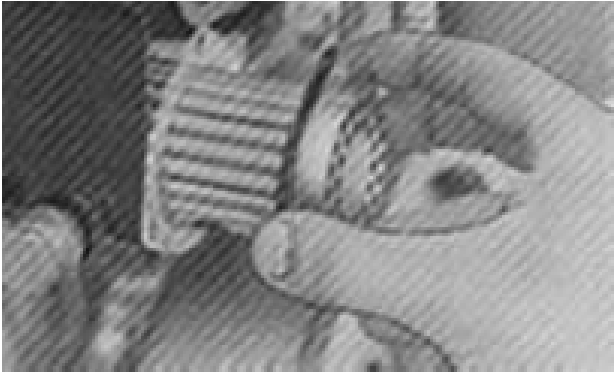

Figure 6-10 Reinstall Heat Exchanger
13. Reinstall the heat exchanger tube and O-rings. See Figure 6-10.